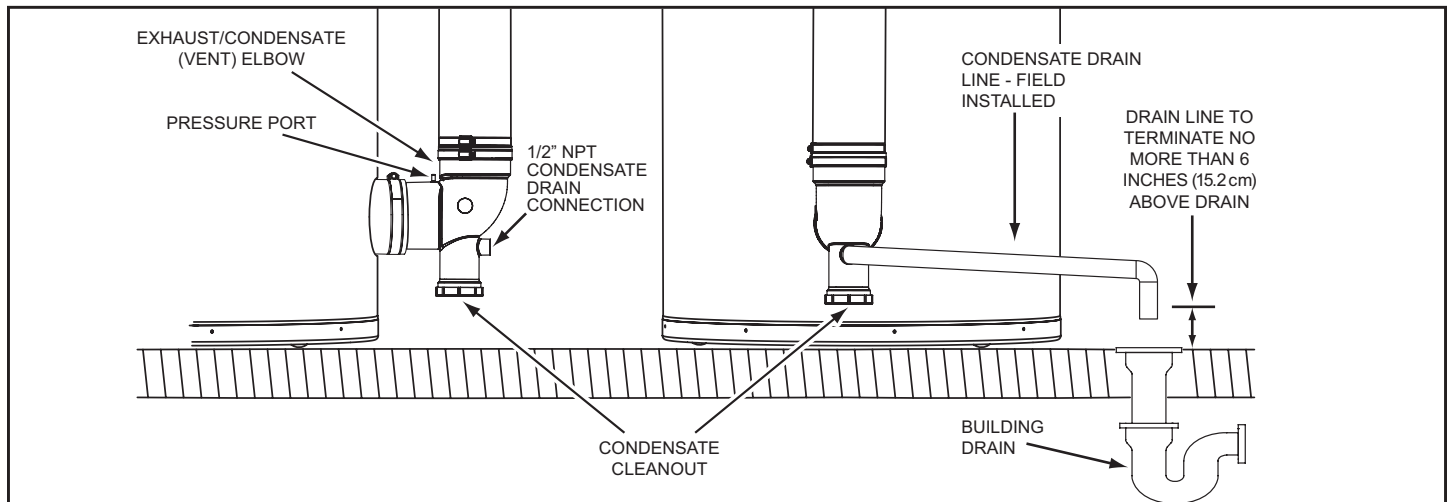

Figure 53. Condensate Drain Installation
2. Install a 1/2 inch PVC condensate drain line between condensate drain connection on the Exhaust/Condensate Elbow and a suitable building drain. The condensate line must slope to an open drain. See *Figure 53*.
3. Terminate the condensate drain piping with an elbow above the drain. Ensure that any discharge will exit the condensate drain line no more than 6 inches (15.2 cm) above a suitable building drain, or external to the building. See *Figure 53*.
4. Ensure the condensate drain line is not elevated above the condensate drain connection on the Exhaust/Condensate Elbow. See *Figure 53*.
Ensure all gas pipe is clean on the inside before installation. To trap any dirt or foreign material in the gas supply line a sediment trap must be installed as shown in **Figure 53**. The sediment trap must be readily accessible and not subject to freezing conditions. Install in accordance with the recommendations of the local gas utility company.
6. Install a sediment trap as shown in *Figure 53* (page 38).
7. Install a Main Gas Shutoff valve in the supply gas line as shown in *Figure 53* (page 38).
1. For test pressures exceeding 1/2 psi (3.45 kPa), disconnect the water heater and its Main Gas Shutoff Valve from the gas supply piping system during testing. See *Figure 53* (page 38). The gas supply line must be capped when disconnected from the water heater.